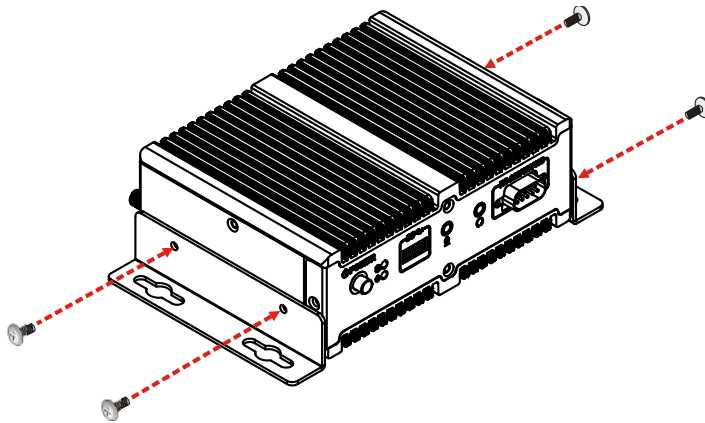

Figure 3-11: Mounting Bracket Retention Screws
- Step 2:** Secure the brackets to the system by inserting two retention screws (M3*5) into each bracket (**Figure 3-11**).